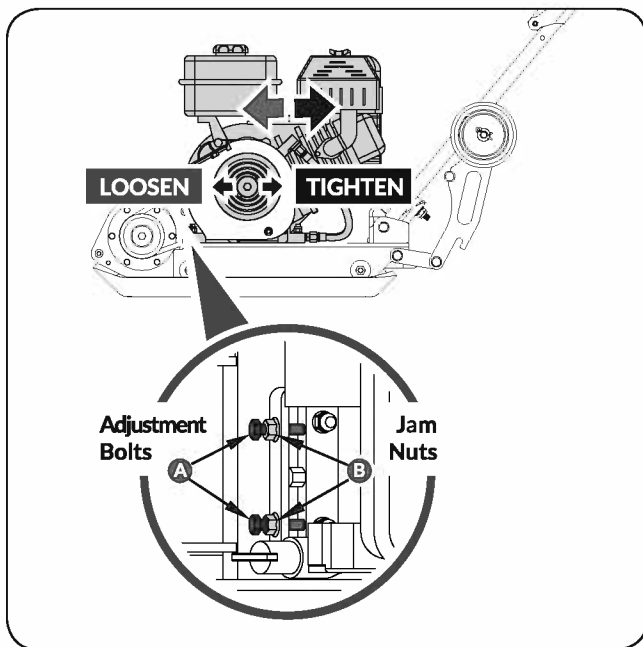
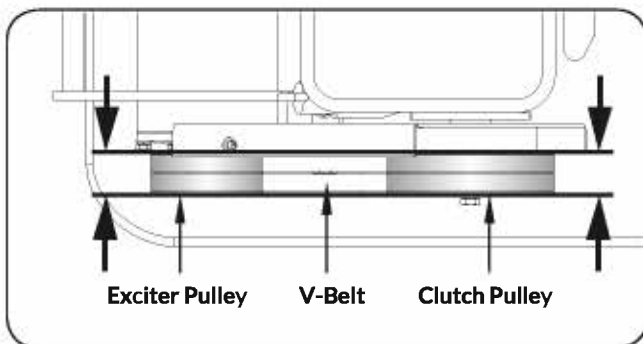

Figure 8c
Figure 8d
4. When the V-belt tension is correct, tighten the jam nuts B against the bracket. (See **Figure 8c** & **Figure 8d**)